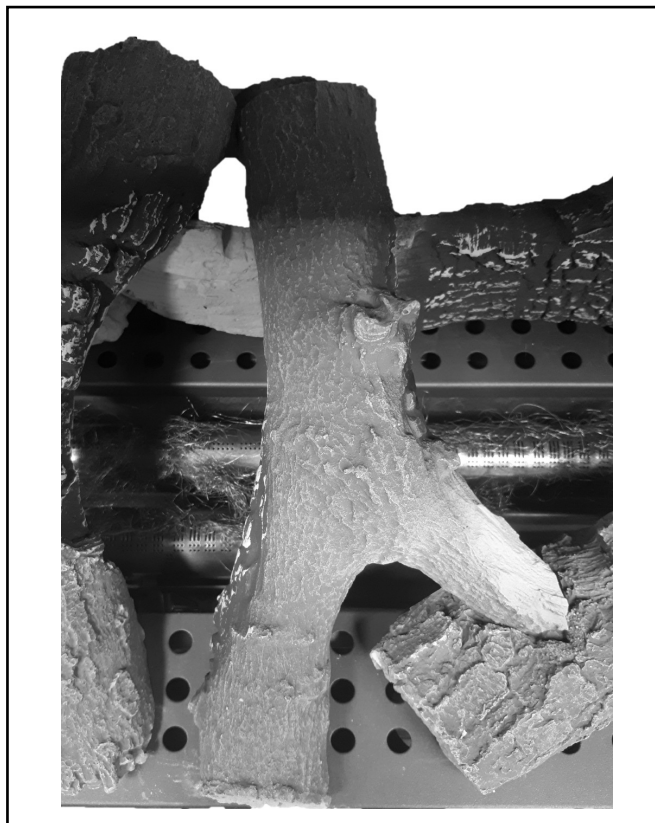

Fig. 8
8. Place Log '8' so that it is resting at the front on the metal base beside Log '7' and to its rear on Log '2' as shown in fig.8.
Note: Ensure that the branch of Log '8' rests on Log '3' as shown in fig.8.